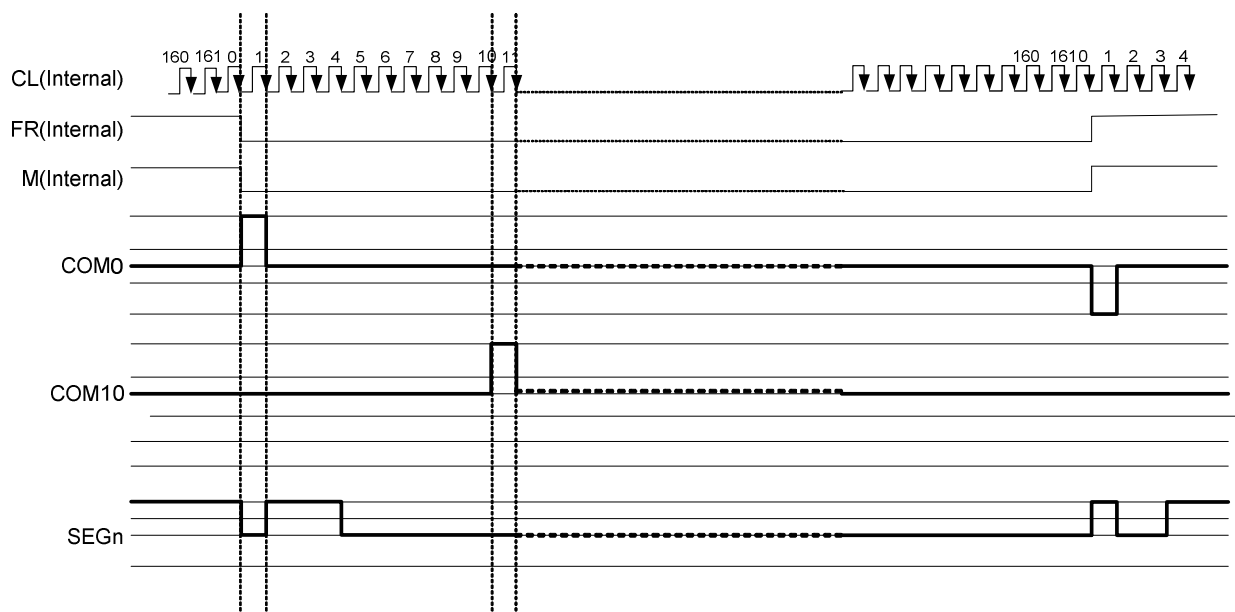

Figure 7.3-3 2-frame AC Driving Waveform (Duty Ratio: 1/162)
This circuit generates some signals to be used for displaying LCD. The display clock, CL (internal), which is generated by oscillation clock, generates the clock for the line counter and the signal for the display data latch. The line address of on-chip RAM is generated in synchronization with the display clock and the display data latch circuit latches the 96-bits display data in synchronization with the display clock. The display data, which is read to the LCD driver, is completely independent of the access to the display data RAM from the microprocessor. The display clock generates an LCD AC signal (M), which enables the LCD driver to make an AC drive waveform, and also generates an internal common timing signal and start signal to the common driver. The frame signal or the line signal changes the M by setting internal instruction. Driving waveform and internal timing signal are shown in Figure 7.3-3.